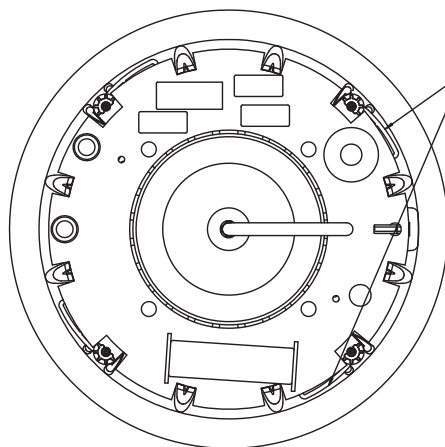

Figure 5
- Make sure the rotating lock arms are positioned inwards (Figure 5) so that your speaker fits into your cutout hole.
**LOCK ARM SCREWS (4).